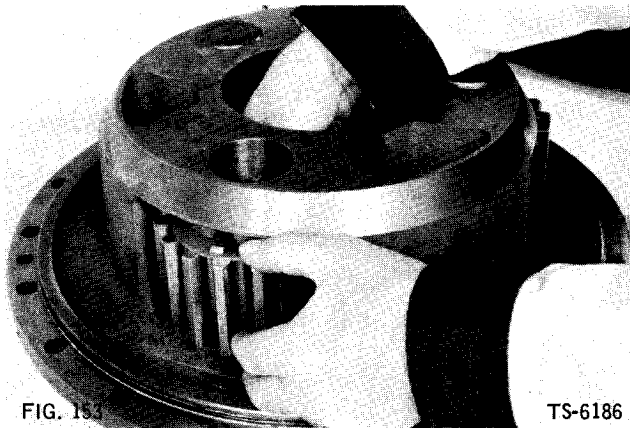

FIG. 153
2. Position assembled pinion and two pinion thrust washers in planet carrier, making sure tangs on thrust washer engage the grooves in the spider (Fig. 153).